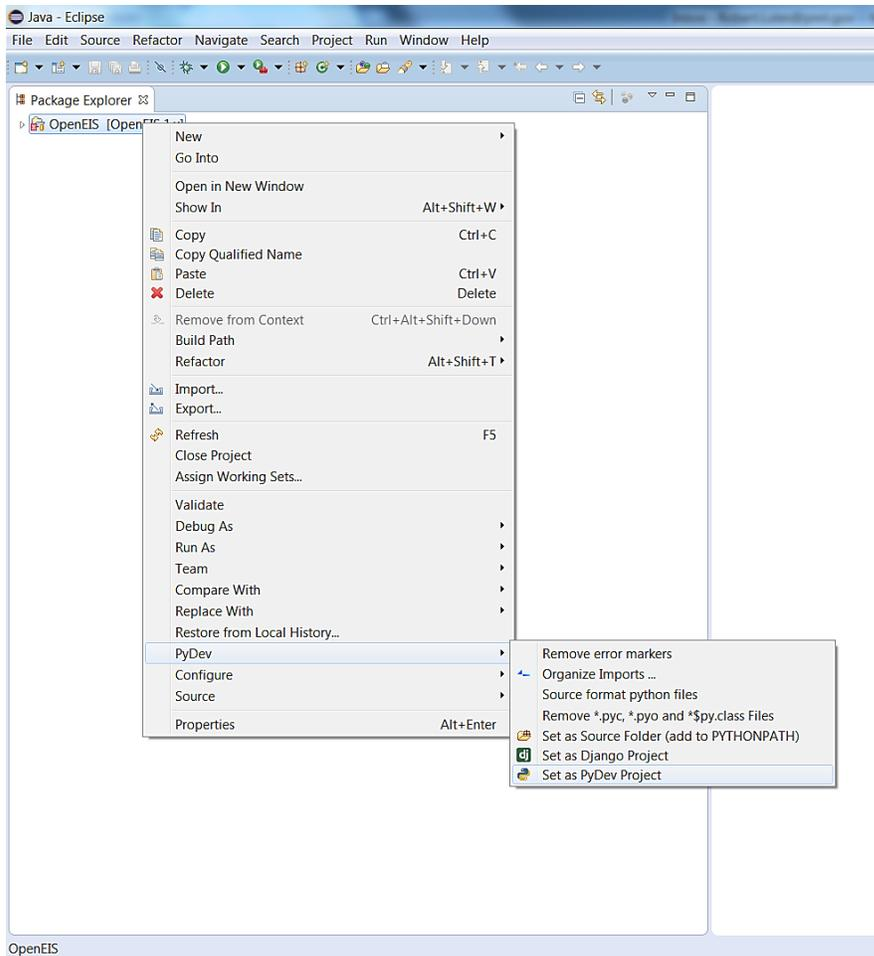

Figure 25: Configuring PyDev
- In the Project/PackageExplorer view on the left, right-click on the project, PyDev-> Set as PyDev Project (Figure 25)